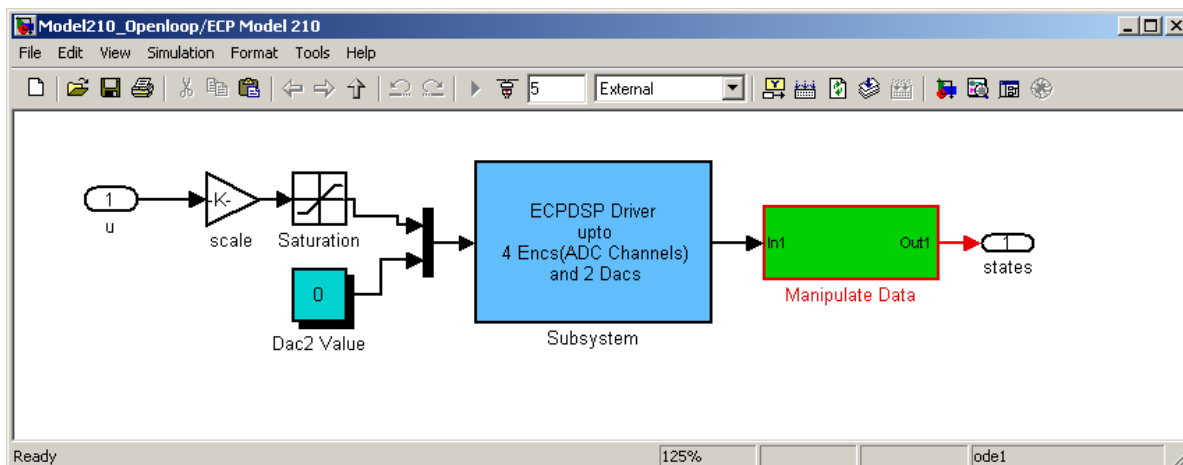

Figure 7: Model210_Openloop/ECP model 210
- You should also verify that the **Base I/O Address** for this system is set correctly for the Dell computers. You can do this by double clicking on the yellow block and the window in Figure 7 will open up. Double click on the blue ECPDSP Driver block to confirm that the Base I/O Address is correct. Click Apply->OK and then close the windows that were opened and save the **Model210_Openloop.mdl** file.